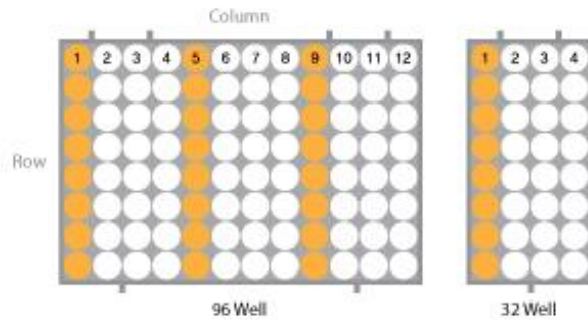

Figure 2: Samples wells (marked in orange) in respect to the Plate type
4. Pipette up and down to make an equal suspension of specimen and dispense each specimen into the sample wells (in a 96 wells plate: apply samples to the 1st, 5th, and 9th columns; in a 32 wells plate: apply samples to the 1st column) of the extraction plate (figure 2).